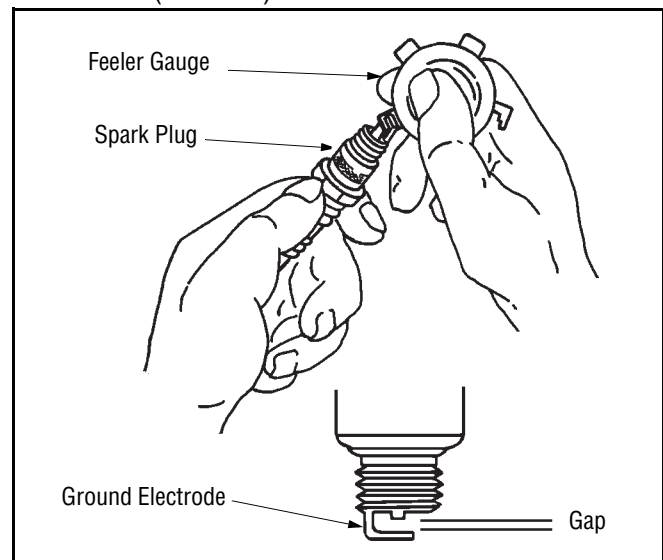

Figure 12
- Check the gap using a feeler gauge and adjust, if necessary, by carefully bending the ground electrode. See Figure 12. Set the spark plug gap to .76 mm (0.030 in.).